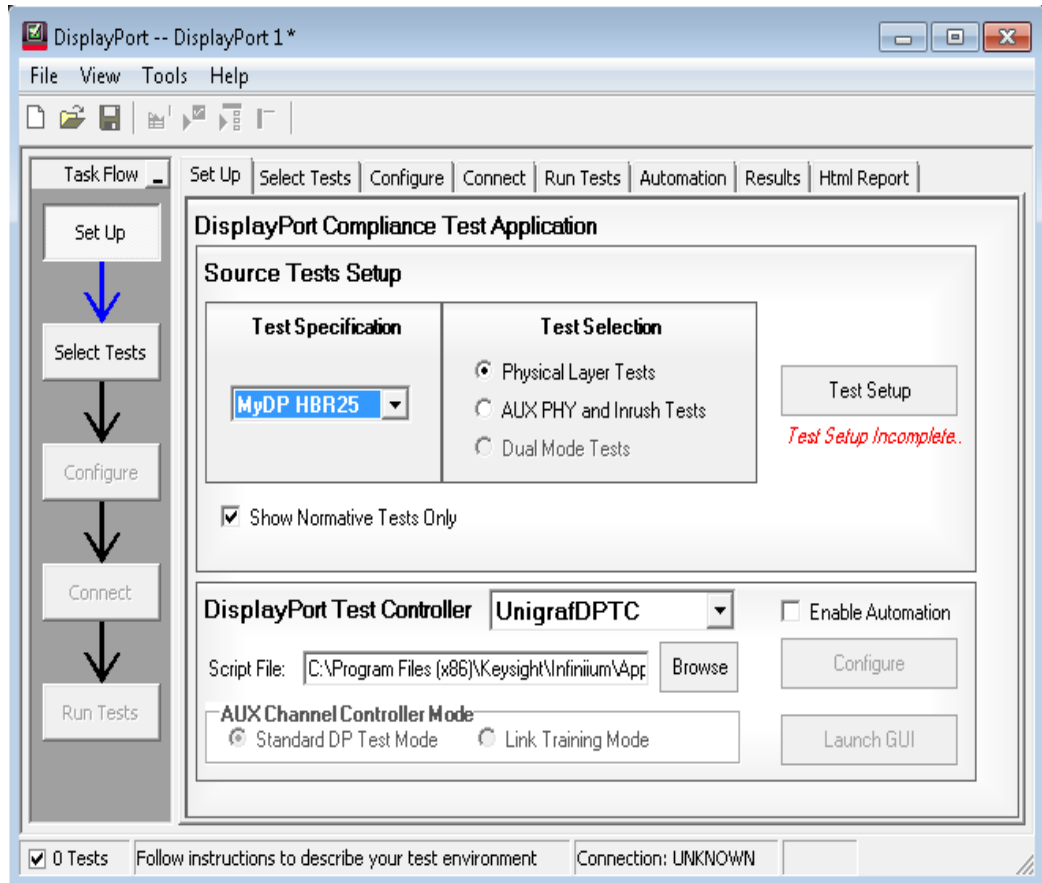

Figure 162 Set Up tab on the DisplayPort Compliance Test App
- 3 On the DisplayPort Compliance Test Application, click the **Set Up** tab (see Figure 162).